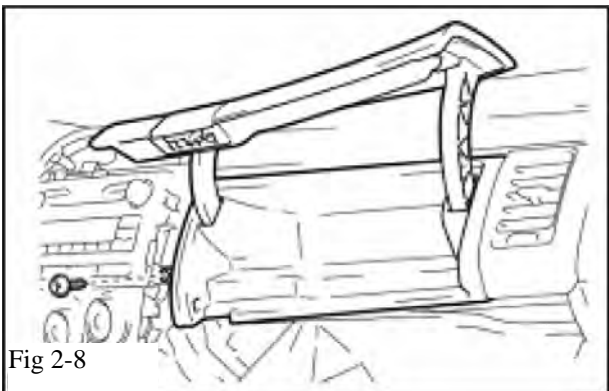

Fig 2-8
- (f) Remove the upper glove box assembly. (Fig. 2-8)
- (1) Remove the screw.